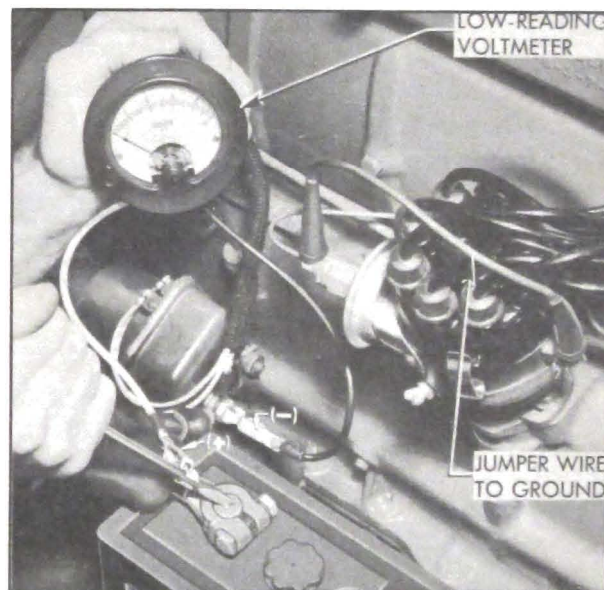

Figure 10-8—Testing Battery Cables and Connections with Voltmeter
2. Connect negative (-) lead of voltmeter to the battery terminal stud on cranking motor solenoid switch. Attach a prod to positive (+) lead of voltmeter and apply the prod to *center* of battery positive (+) post. See figure 10-8.